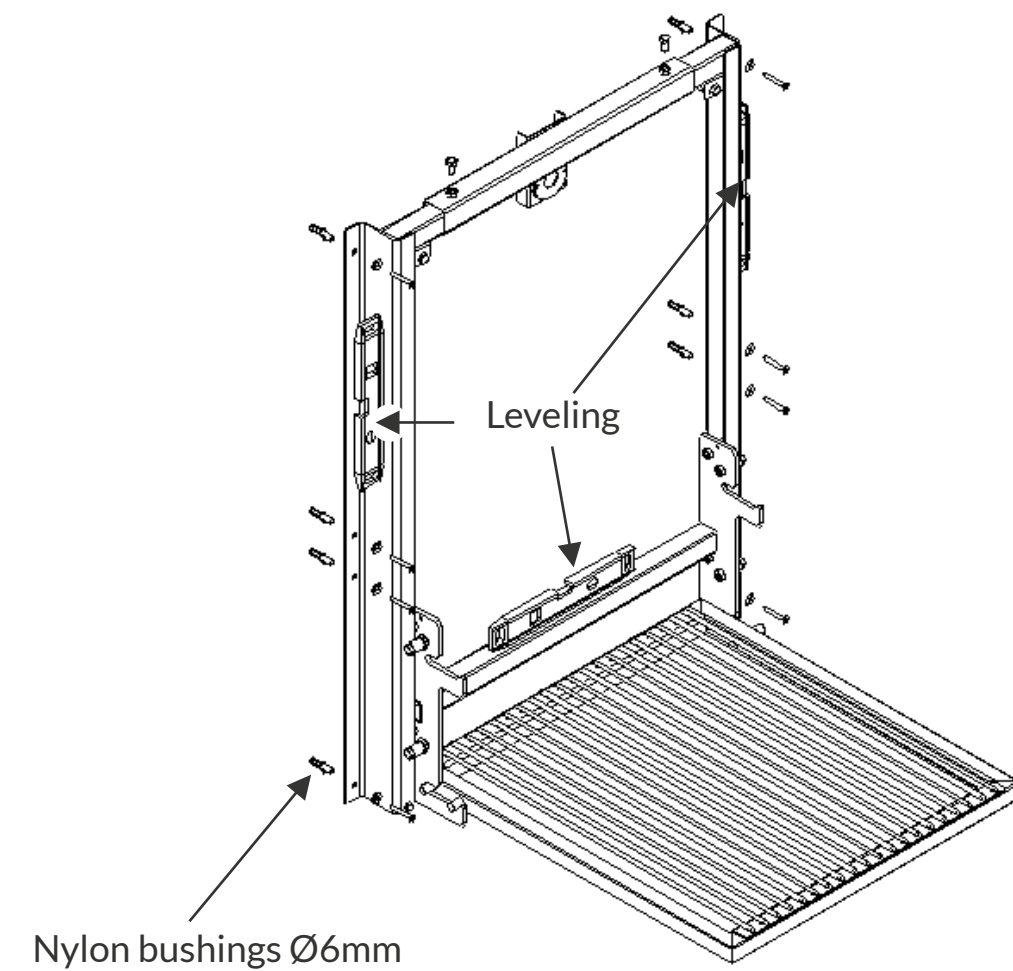

Figure 4
b) If you are only installing the Elevgrill Elevating Grill, after pre-assembling the structure, place it on the rear wall. With the help of a ruler-type level, level the equipment, marking the center of the holes on the masonry. Remove the Rear Structure and drill the holes in the rear wall using a $\text{\O}6\text{mm}$ (Concrete) Wídea drill bit. Insert the included nylon anchors, position the equipment again, level it, and secure it with the screws and washers, as shown in Figure 4 beside: